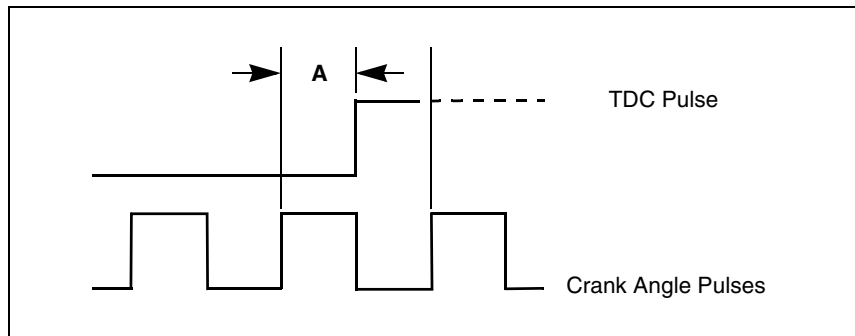

Fig. A-5 Timing of the TDC and Crank Angle Pulses
- **TDC pulse relative to trigger pulse:** Indicates relative position of the leading edge of the TDC pulse with respect to the start and end of the crank pulse period (see Fig. A-5). For correct synchronisation the leading edge must be positioned between 15 and 85% of the crank pulse period.